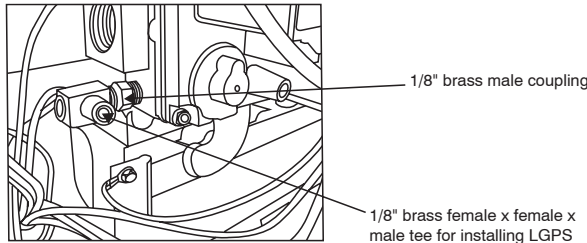

**Fig. 11 - Gas Valve Inlet Pressure Tap**
3. Apply pipe dope sparingly to one end of 1/8-in. (3 mm) brass male coupling (provided in kit) and install the doped end in 1/8-in. (3 mm) tapped opening in gas valve inlet pressure-tap. Tighten fitting with a small open-end wrench. (See Fig. 11.)
4. Apply pipe dope sparingly to opposite end of the 1/8-in. (3 mm) brass coupling (provided in kit). Install the female end of the female x female x male tee on the brass coupling. Tighten coupling finger tight. Use a small open-end wrench for final tightening. (See Fig. 11.)
6. Connect a manometer to the open end of the tee installed in the gas valve. (See Fig. 11 and 12.)
1. Verify manometer is connected to the brass tee connected to the inlet pressure tap on gas valve. (See Fig. 11 or 12.)
12. Apply pipe dope sparingly to end of inlet gas pipe plug and install into unused end of 1/8-in. (3 mm) tee. Use a small back-up wrench on tee when tightening gas inlet pipe plug. (See Fig. 11 or 12.)